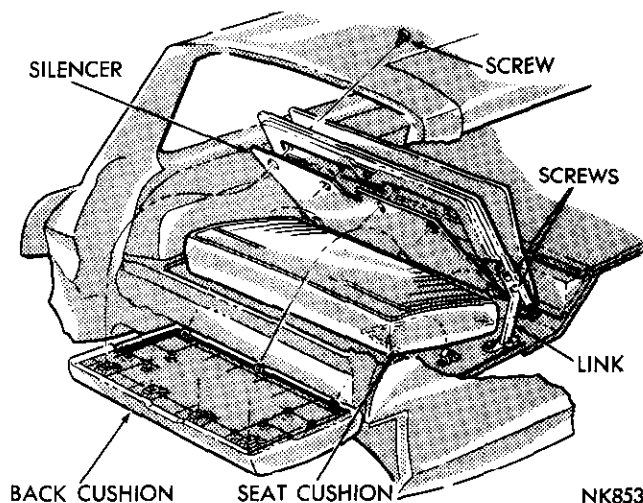

Fig. 20—Third Seat Back and Cushion
- (1) With third seat back in the UP position, remove the seat hinge link screws (Fig. 20).